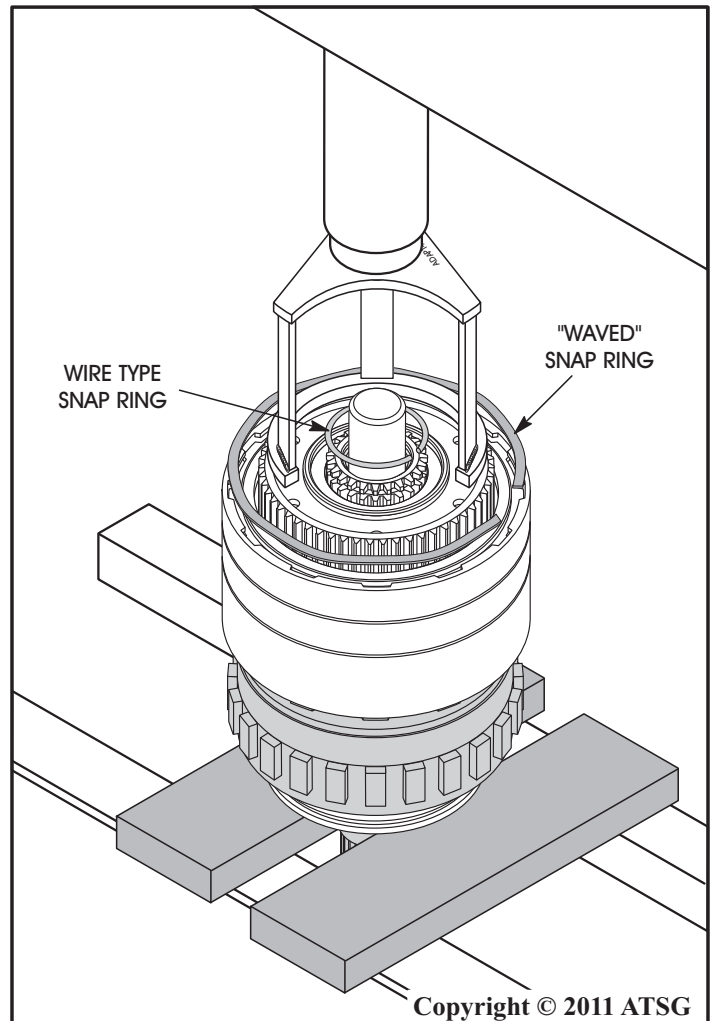

Figure 187
34. Install the overdrive direct clutches and backing plate into housing, as shown in Figure 187.
35. Install the overdrive direct clutch "wave" snap ring, as shown in Figure 187, and **"ensure"** that snap ring is fully seated in snap ring groove.
36. Install the overdrive clutch hub "wire type" snap ring into groove of the sun gear shaft, as shown in Figure 187, and **"ensure"** it is fully seated.